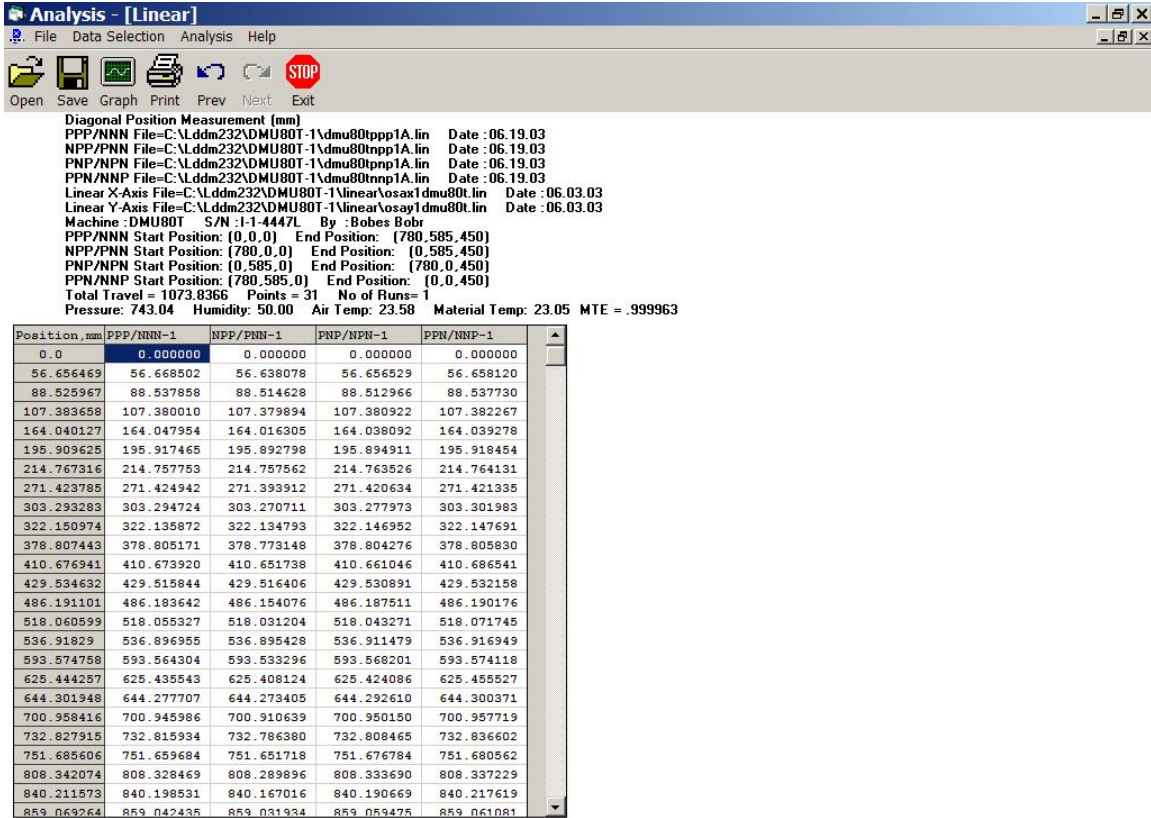

FIG. 9-6 4 SEQUENTIAL DIAGONAL POSITION MEASUREMENT DATA TABLE
- 3) After all 4 diagonal files are selected, the screen will show the collected diagonal position data as shown in FIG. 9-6.